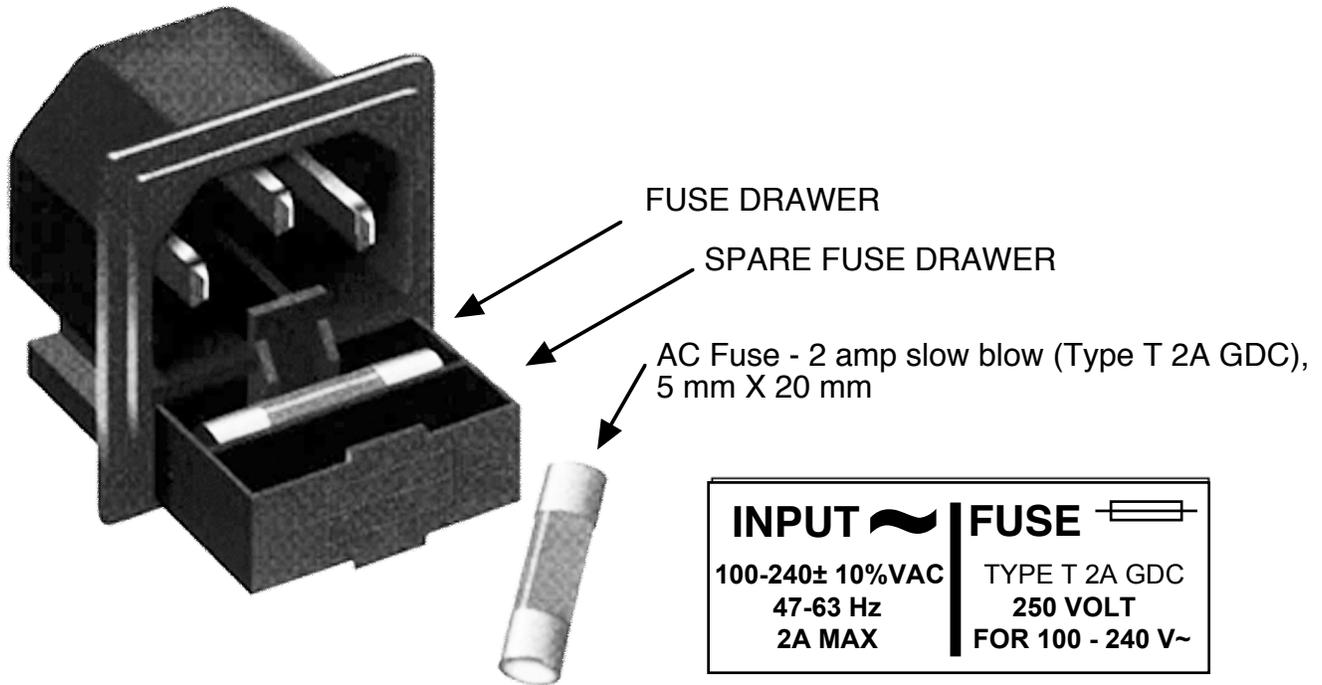

FIGURE 2.3 AC INPUTS AND FUSES
- 4.1. AC Fuse - The fuse is a 5 mm X 20 mm, 2 amp slow blow (Type T) and is inserted in the far slot in the drawer below the AC input as shown in Figure 2.3. There is a spare fuse in the near slot. If a fuse continues to open, the power supply is most likely defective.
7. Check that Ch 1 and Ch 2 are selected when in Auto and momentary ground is applied to J8 pins (1) and (2) Momentarily ground remote Reset pin 4 on J8 to return to Auto operation.